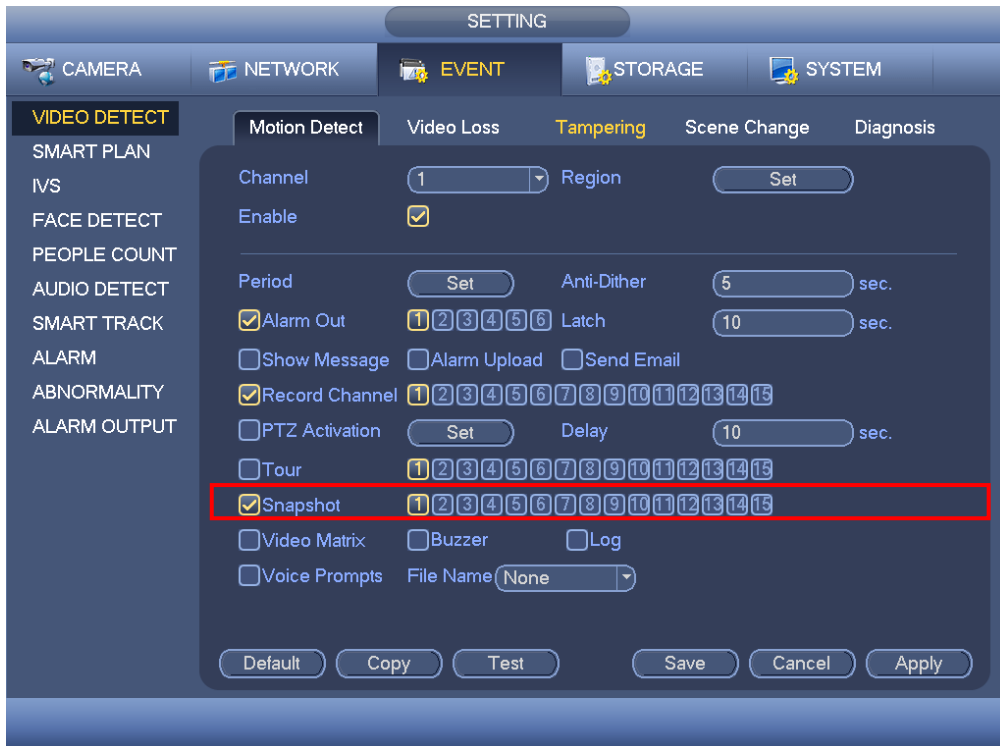
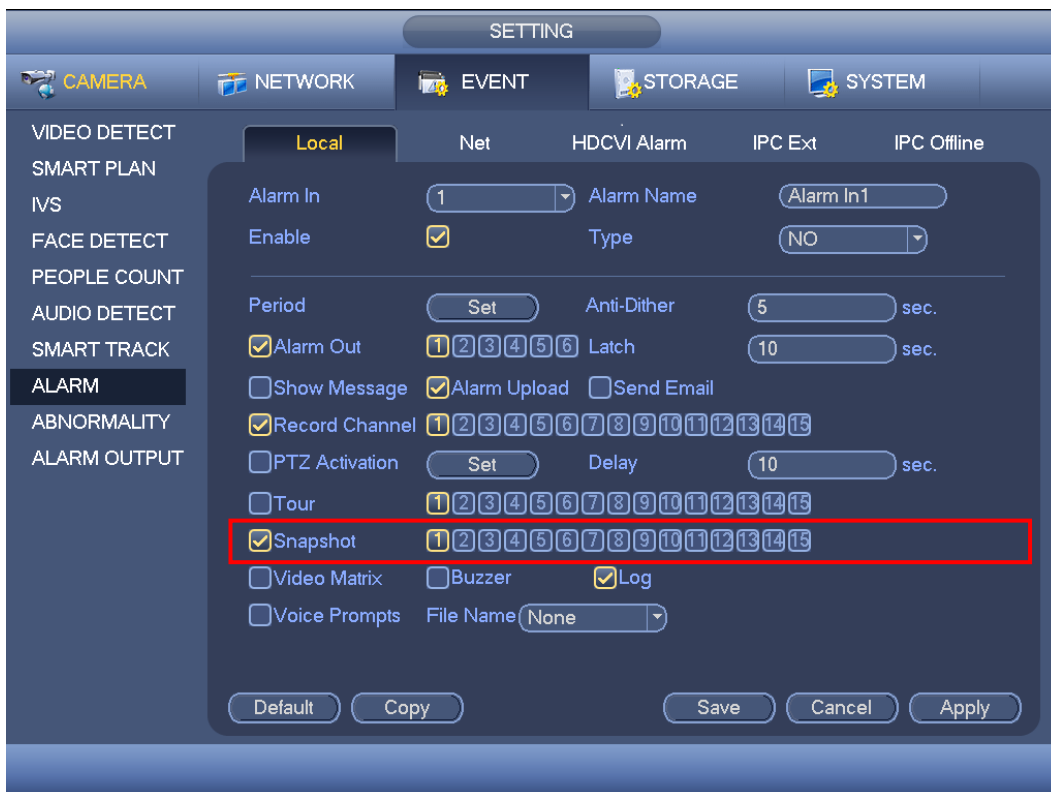

Figure 4-100
Figure 4-101
- In main menu, from Setting->Video detect->Motion detect, please enable snapshot function for specified channels (Figure 4-100). Or In main menu, from Setting->Event->Alarm (Figure 4-101) please enable snapshot function for specified channels.